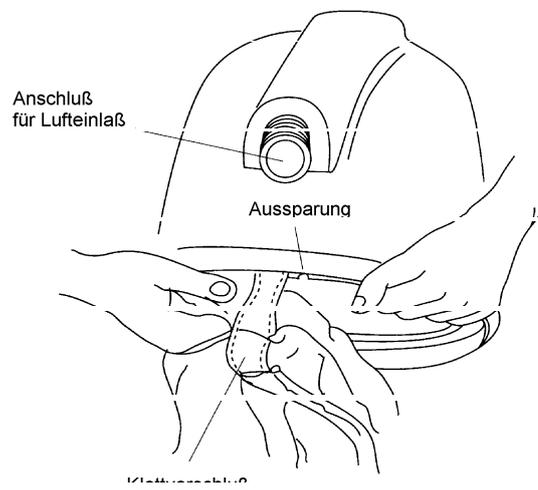

Figure 4: Detaching the cape
<p>(1) Open the velcro fastener on the cape.</p>	<p>See Figure 4.</p>
(4) Close the velcro fastener on the cape.	See figure 4.